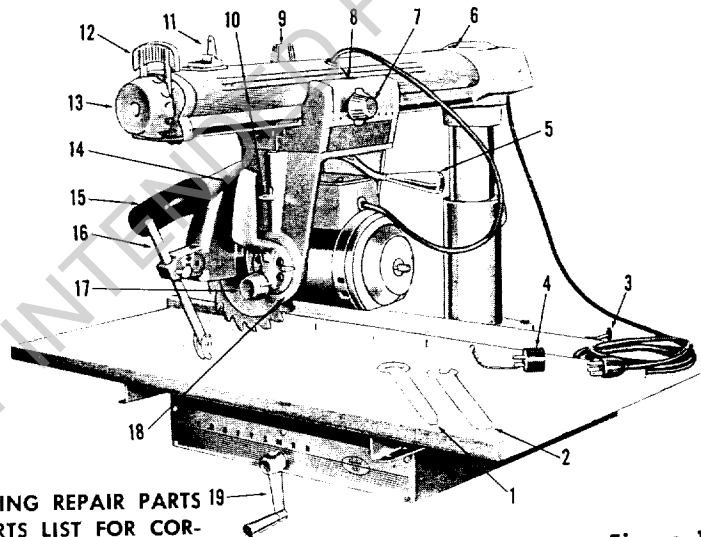

Figure 19
RAISING AND LOWERING THE RADIAL ARM is accomplished by the elevation crank (Item 19, figure 19). One complete turn of this handle will raise or lower the radial arm $\frac{1}{8}$ ".
LOCKING THE CARRIAGE TO THE RADIAL ARM is accomplished by the carriage lock knob (Item 7, figure 19). Turn the knob clockwise to lock; counterclockwise to unlock.
ANGULAR MOVEMENT AND LOCKING OF THE RADIAL ARM are controlled by the arm latch lever (Item 12, figure 19) and the arm latch handle (Item 13, figure 19). The radial arm can be rotated 360° and locked in any position. The arm is unlocked from any position by a slight counterclockwise rotation of the arm latch handle and is locked in any position by rotating the arm latch handle clockwise until tight. The radial arm has positive stops at 0° and 45° left and right, and is released from these index positions by unlocking the arm latch handle and pulling out the arm latch lever (Item 12, figure 19).
2. Before moving the radial arm to the desired index position, turn the arm latch handle (Item 13, figure 19) ~~just 1/4 turn counterclockwise from the locked position.~~
MOVEMENT AND POSITION OF THE MOTOR IN THE YOKE are controlled by the latch pin handle (Item 10, figure 19) and bevel lock knob (Item 17, figure 19). The bevel scale indicates the angular position of the motor with respect to the horizontal from 0° to 90° in either vertical position. The latch pin handle automatically indexes the motor at 0°.
MOVEMENT AND POSITION OF THE YOKE are controlled by the swivel latch pin knob (Item 9, figure 19) and the yoke clamp handle (Item 5, figure 19). The swivel latch pin automatically indexes the yoke at each 90° position and two 45° positions. Lift to release. The yoke clamp handle locks the yoke to the carriage in any position. Pull to release. Push to tighten. When "In Ripping" it may be desirable to have more free table in front of the saw blade than is obtainable when the radial arm is at the 0° position. With the blade in the normal cross-cut position index the radial arm to 45° left and lock it. Then loosen the yoke clamp handle and index the yoke 45° clockwise. Reclamp the yoke clamp handle. The added free table space is now to the right of the blade and ripping should be done from the right side of the table. The reverse is also true for "Out Ripping" by indexing the radial arm 45° right and indexing the yoke 45° counterclockwise. The added table space is now to the left of the blade and ripping should be done from the left side of the table.
Move the motor along the radial arm until the blade, when spun by hand, just touches the front face of the fence (See Figure 20). The indicator (Item 8, figure 19) on the "In-Rip" scale should now read 0. If not, shift the position of the indicator to read 0.